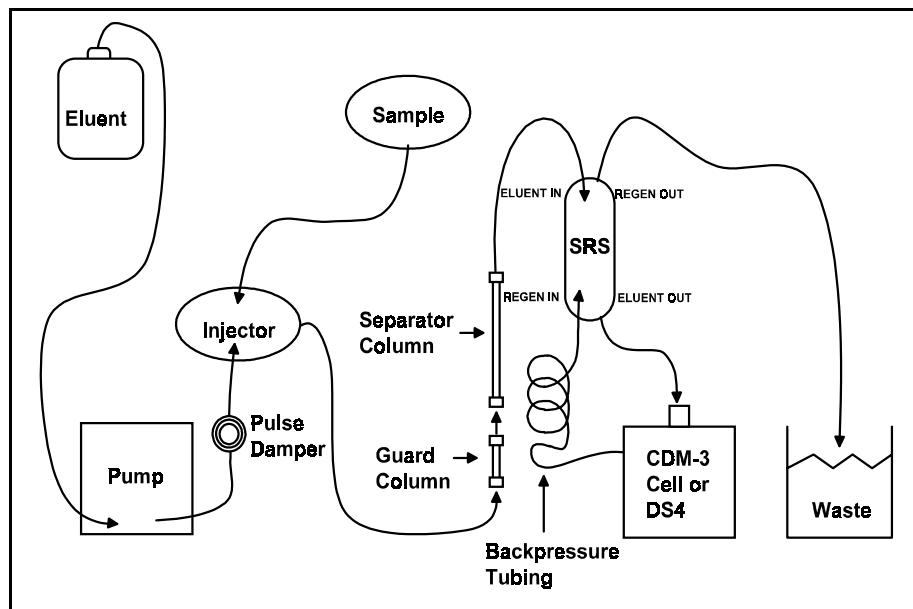

Figure B-5. AutoSuppression Recycle Mode
- AutoSuppression™ Recycle mode (SRS required), shown in Figure B-5.
The DX-120 Ship Kit includes backpressure coils (P/N 045877) for installation after the cell outlet (see Figures B-5 and B-6). The number of coils required depends on the application flow rate and the type of system (see Table B-1).